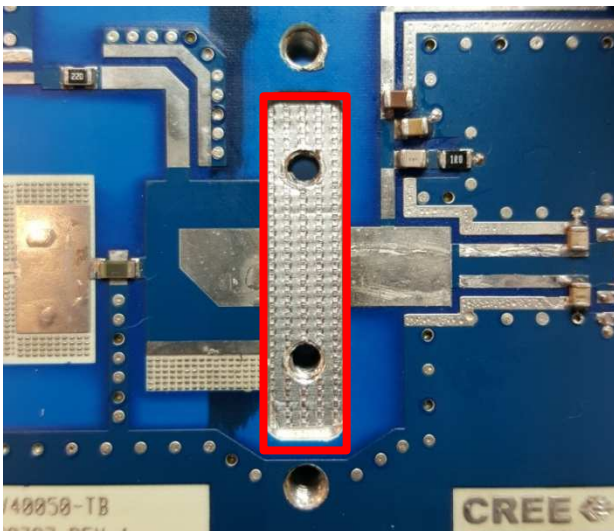

Figure 2.
5. Place indium into test fixture making note of the marked side which will denote the indium side, which should be placed facing down in the test fixture. Make note of any screw holes used for flange device and using the utility knife make small incisions in to areas as shown in Figures 2 and 3. Make sure the indium foil covers the entire area, denoted by the red squares in Figures 2 and 3.